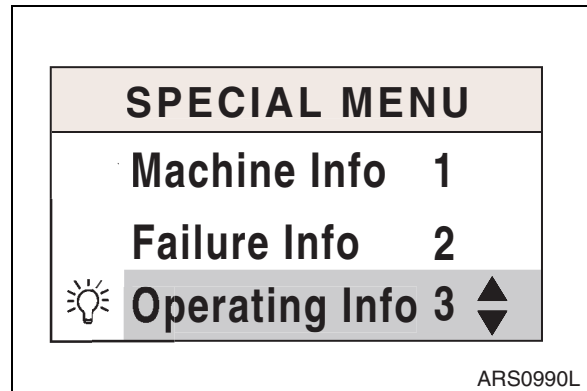
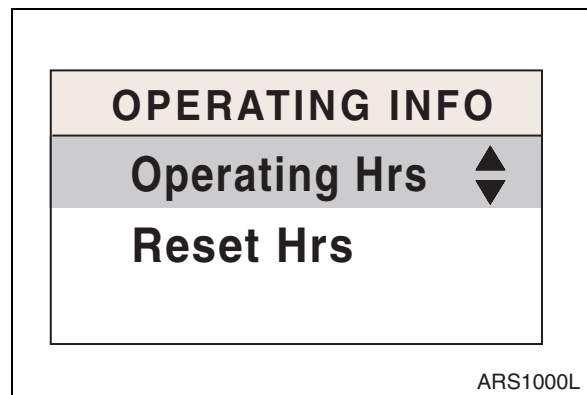

Figure 37
Figure 38
- A. Entering Sub-menus: When a cursor is located in "Operating Info" of special menu screen (Figure 37) press enter button (↵, 3 on Figure 18) and "Operating Info" screen will be displayed (Figure 38).
- B. Information screen of machine operation (Figure 38).